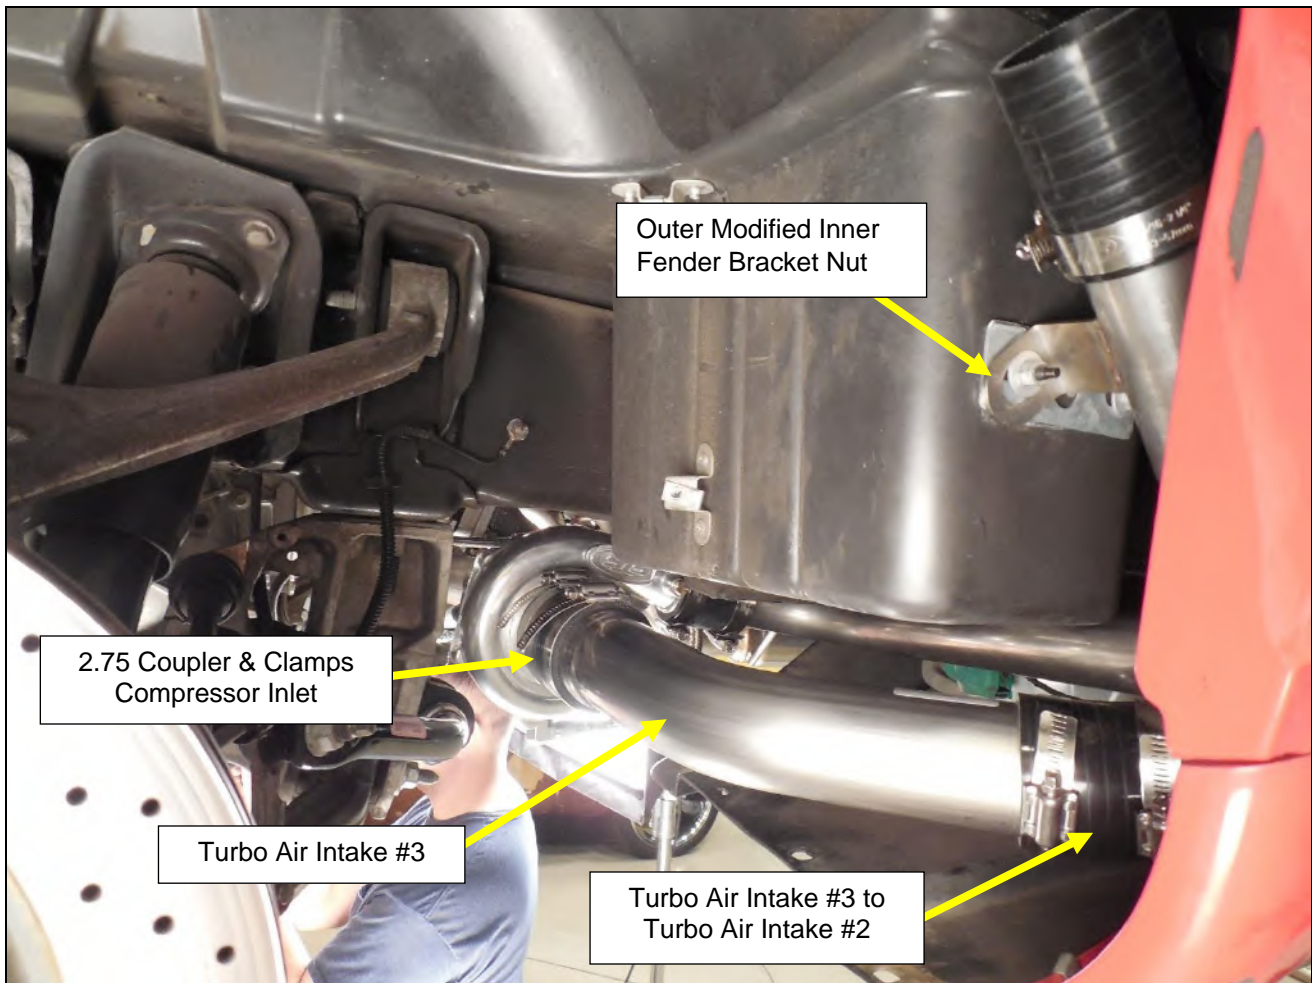

Figure 61
5. Install the 2.750" silicone coupler on to the compressor inlet of the driver's and passenger's turbo (Figure 61).
7. Install the left (driver's side) and right (passenger's side) turbo air intake pipe #3 between the turbo compressor inlet and turbo air intake pipe #2 (Figure 61).
11. Install the modified inner fender brackets, if not already installed. Do not install the outermost nut at this time. It will be used to mount intake charge pipes L1 and R1 (Figure 61).